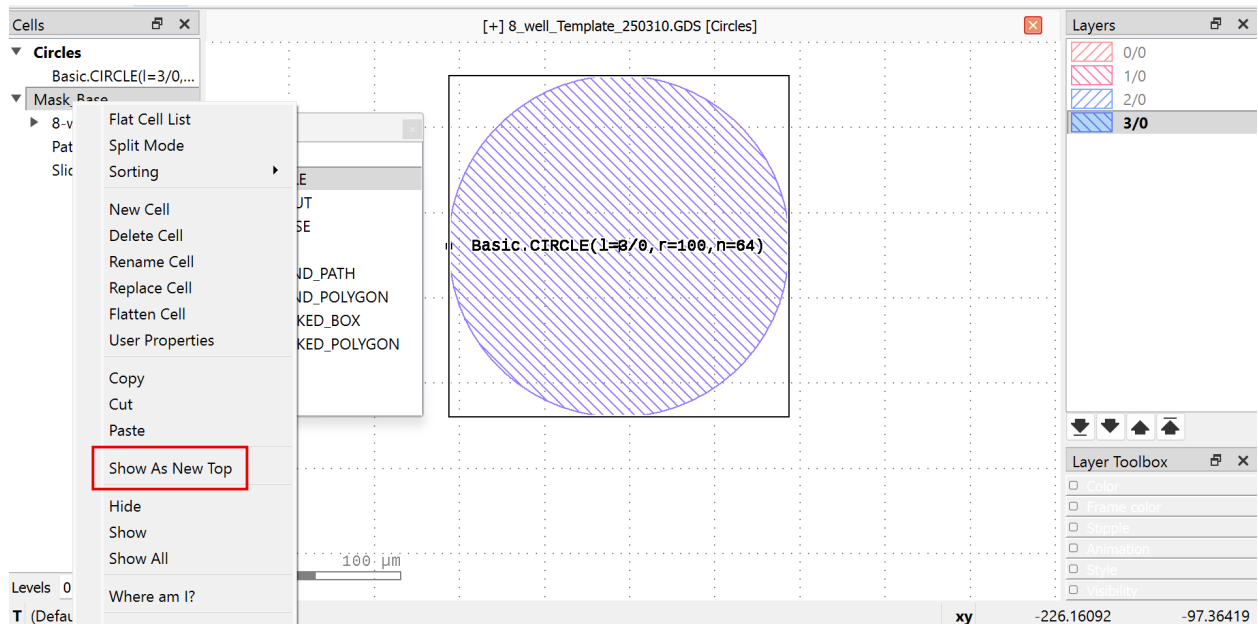

Figure 5: Management of the cells on the left side.
Note: KLayout shows the active cell only. When creating a new cell, the newly created cell is shown, and no content will be displayed until you add your geometries. To switch between the cells, right-click on the respective cell in the left panel and select “Show As New Top” (see Figure 5).
8. After defining the circle geometry, confirm that Mask_Base is set as the top cell, as shown in Figure 5.